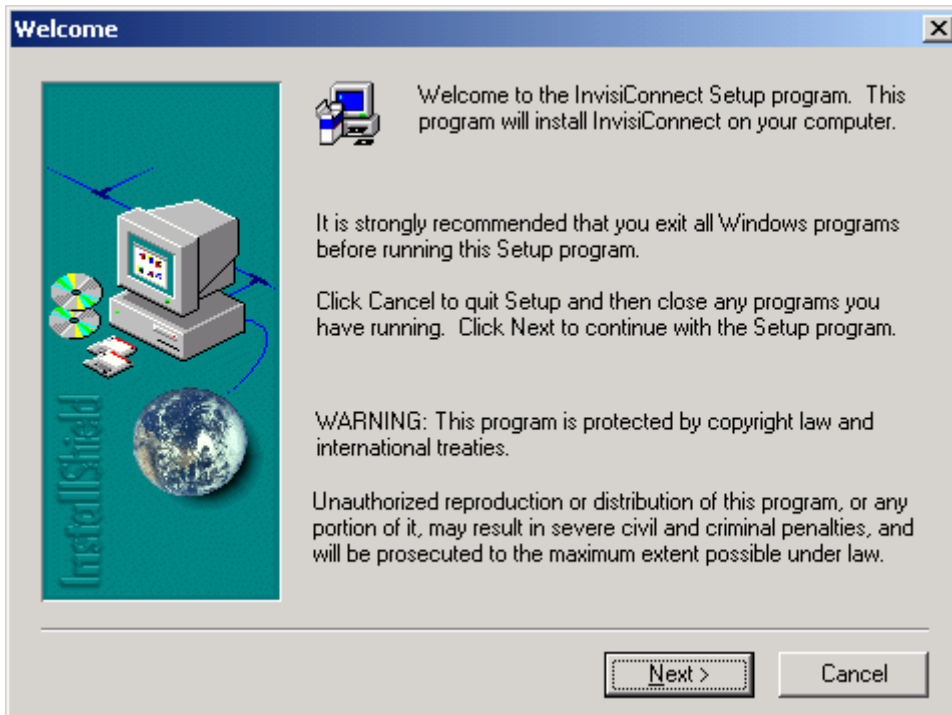

Figure 1 – InvisiConnect™ Installation – Welcome
2. Figure 1. Welcome screen – Click <Next> to continue.